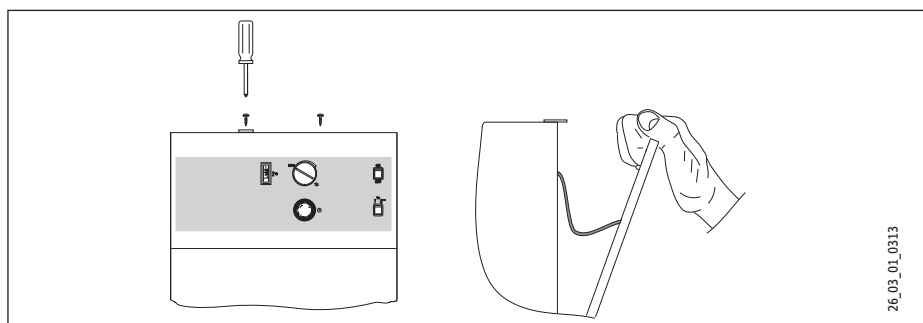
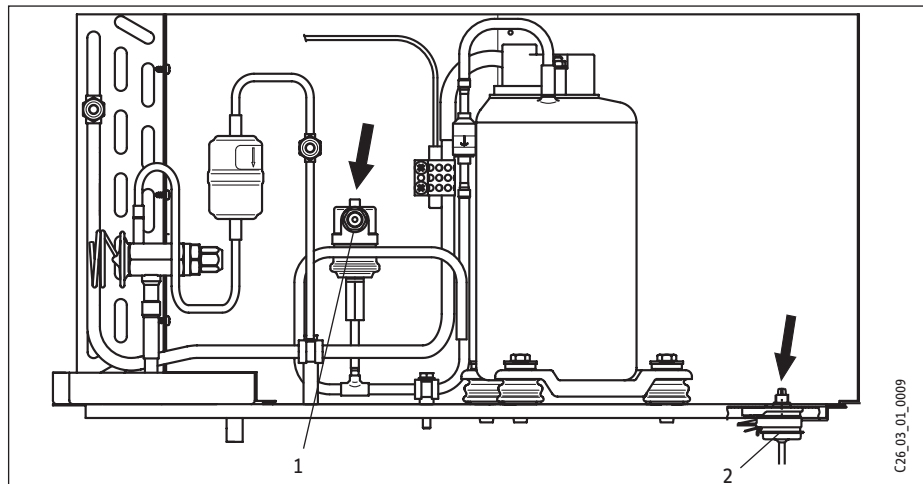

Fig. 2a
Fig. 3
This will shut the equipment down if the DHW temperature exceeds 95 °C. Reset the high limit safety cut-out by pressing the reset button (item 2, Fig. 3), after the cause of the fault has been removed. For this, open the equipment as shown in Fig. 2a.
The safety high pressure limiter shuts down the compressor, if the pressure inside the refrigerant circuit exceeds the permissible maximum value. The safety high pressure limiter may also respond, if the WWK 300 is operated above its permissible limit (>35 °C exhaust temperature). Reset the safety high pressure limiter by pressing the reset button (item 1, Fig. 3), after the cause of the fault has been removed. For this, open the equipment as shown in Fig. 2a.